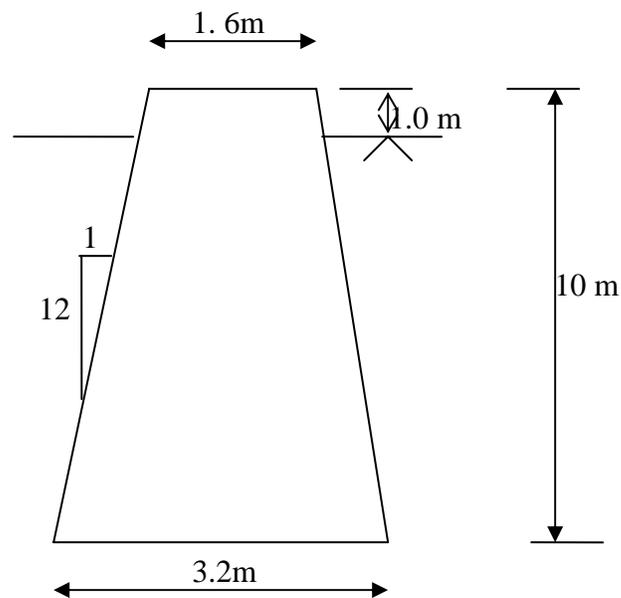

Fig 1.
- b) Verify the adequacy of the dimensions for the pier shown in Fig. 1 The following details are available: